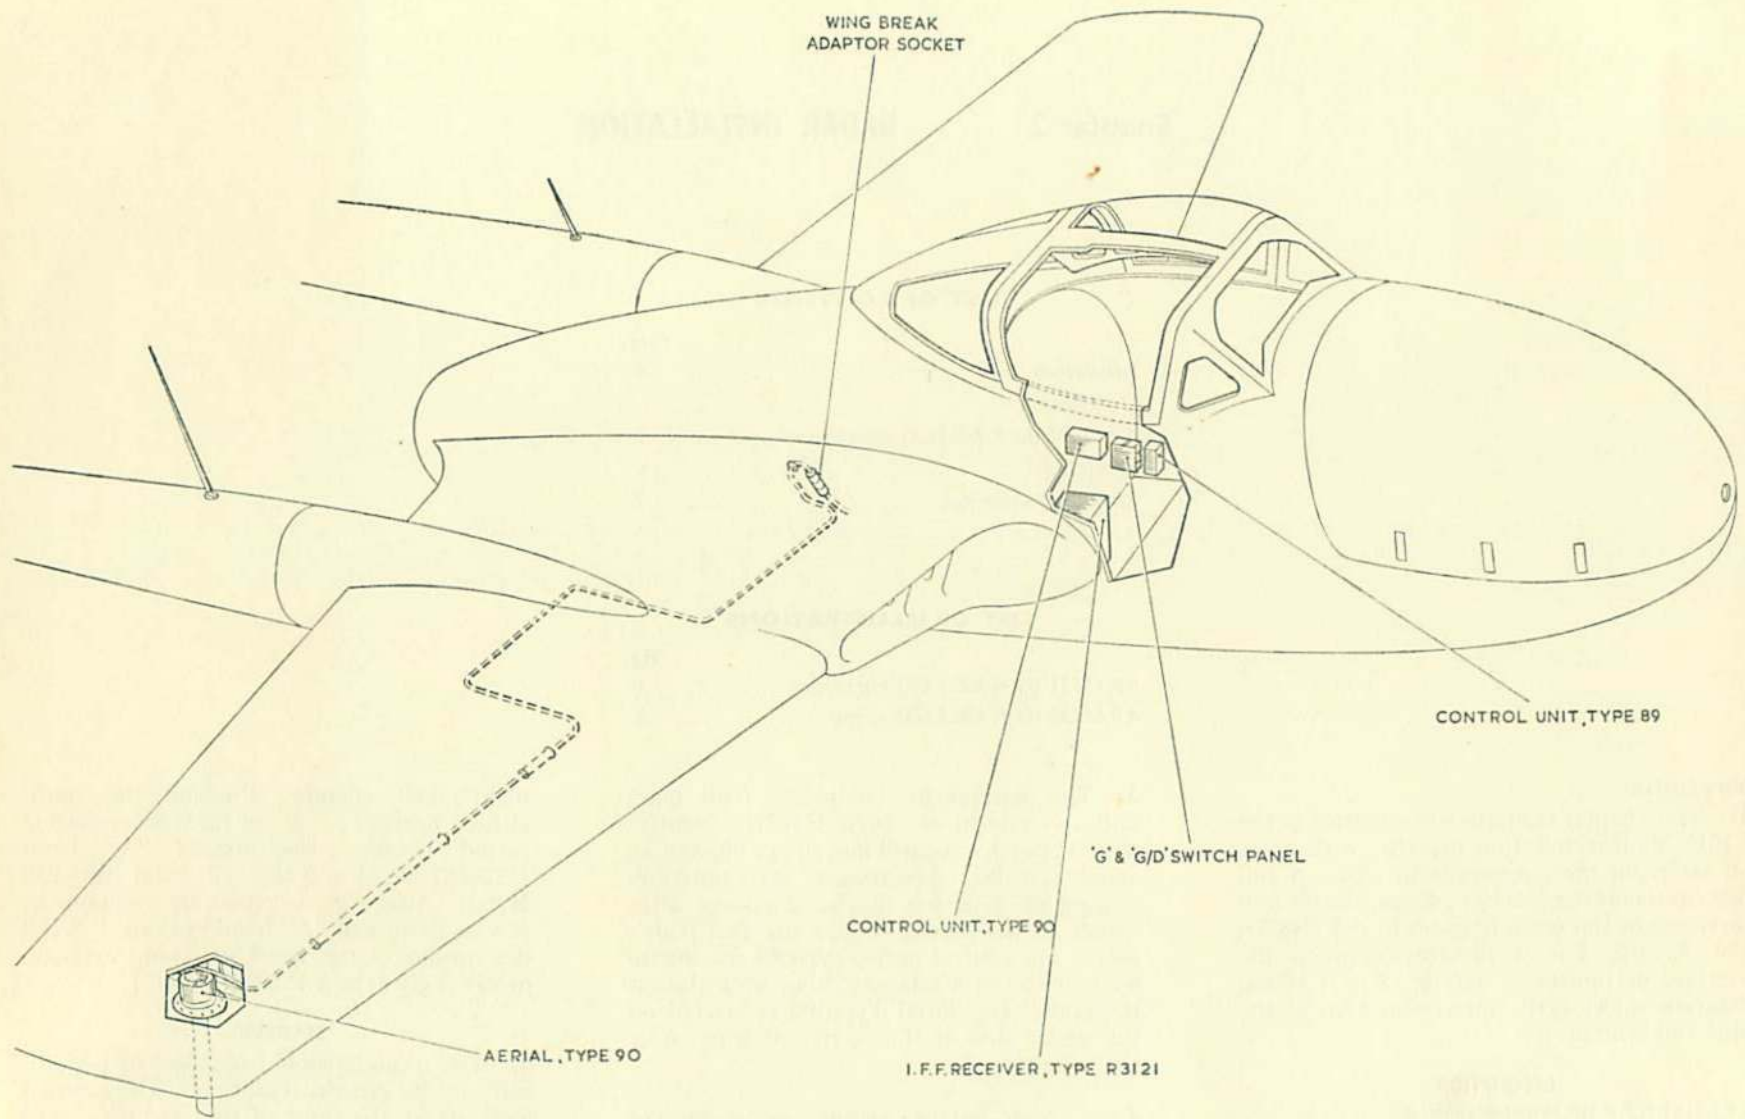

Fig. 1. A.R.I.5131 (I.F.F. Mk.3 GR) installation
1. This chapter contains a description of the I.F.F. Mk.3 installation together with notes on servicing the equipment in situ. A full description of the function, circuit details and servicing of the units is given in A.P.2887D, Vol. 1. Fig. 1 is an illustration giving the location of the units and fig. 2 is a wiring diagram showing the interconnection of the unit and switches.